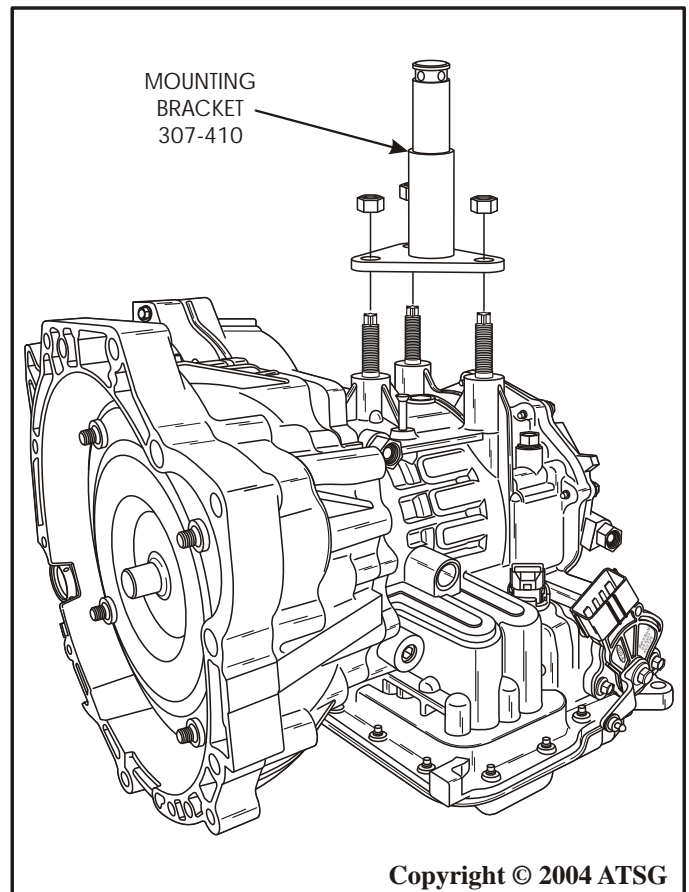

Figure 194
9. Remove the transaxle from bench fixture and remove mounting bracket from transaxle, as shown in Figure 194.